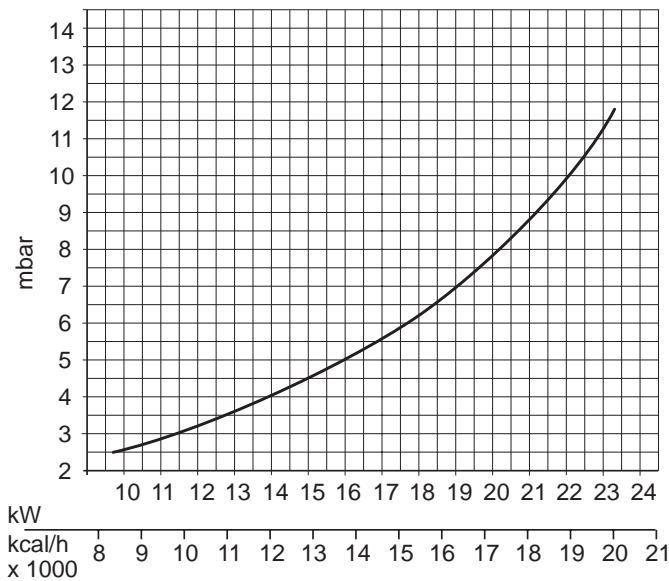

Fig. 4
N.B. - The gas pressures at the burner and gas flows during the central heating phase given in the table refer to nominal boiler output. To reduce this output (where necessary), gas pressure must be reduced until the required output level is reached (see figures 4 and 5).
To adjust boiler heat input (thus also regulating heat output to the central heating water) simply adjust the main burner via the electronic control board (fig. 4 and 5 and see paragraph 5.04 page 29). The diagrams indicate the variation in heat output to the water as burner working pressure is varied. Adjusting boiler output to the actual requirements of the central heating system will minimise boiler cycling thus saving fuel, varying the output has virtually no effect on the efficiency and combustion characteristics of the boiler.